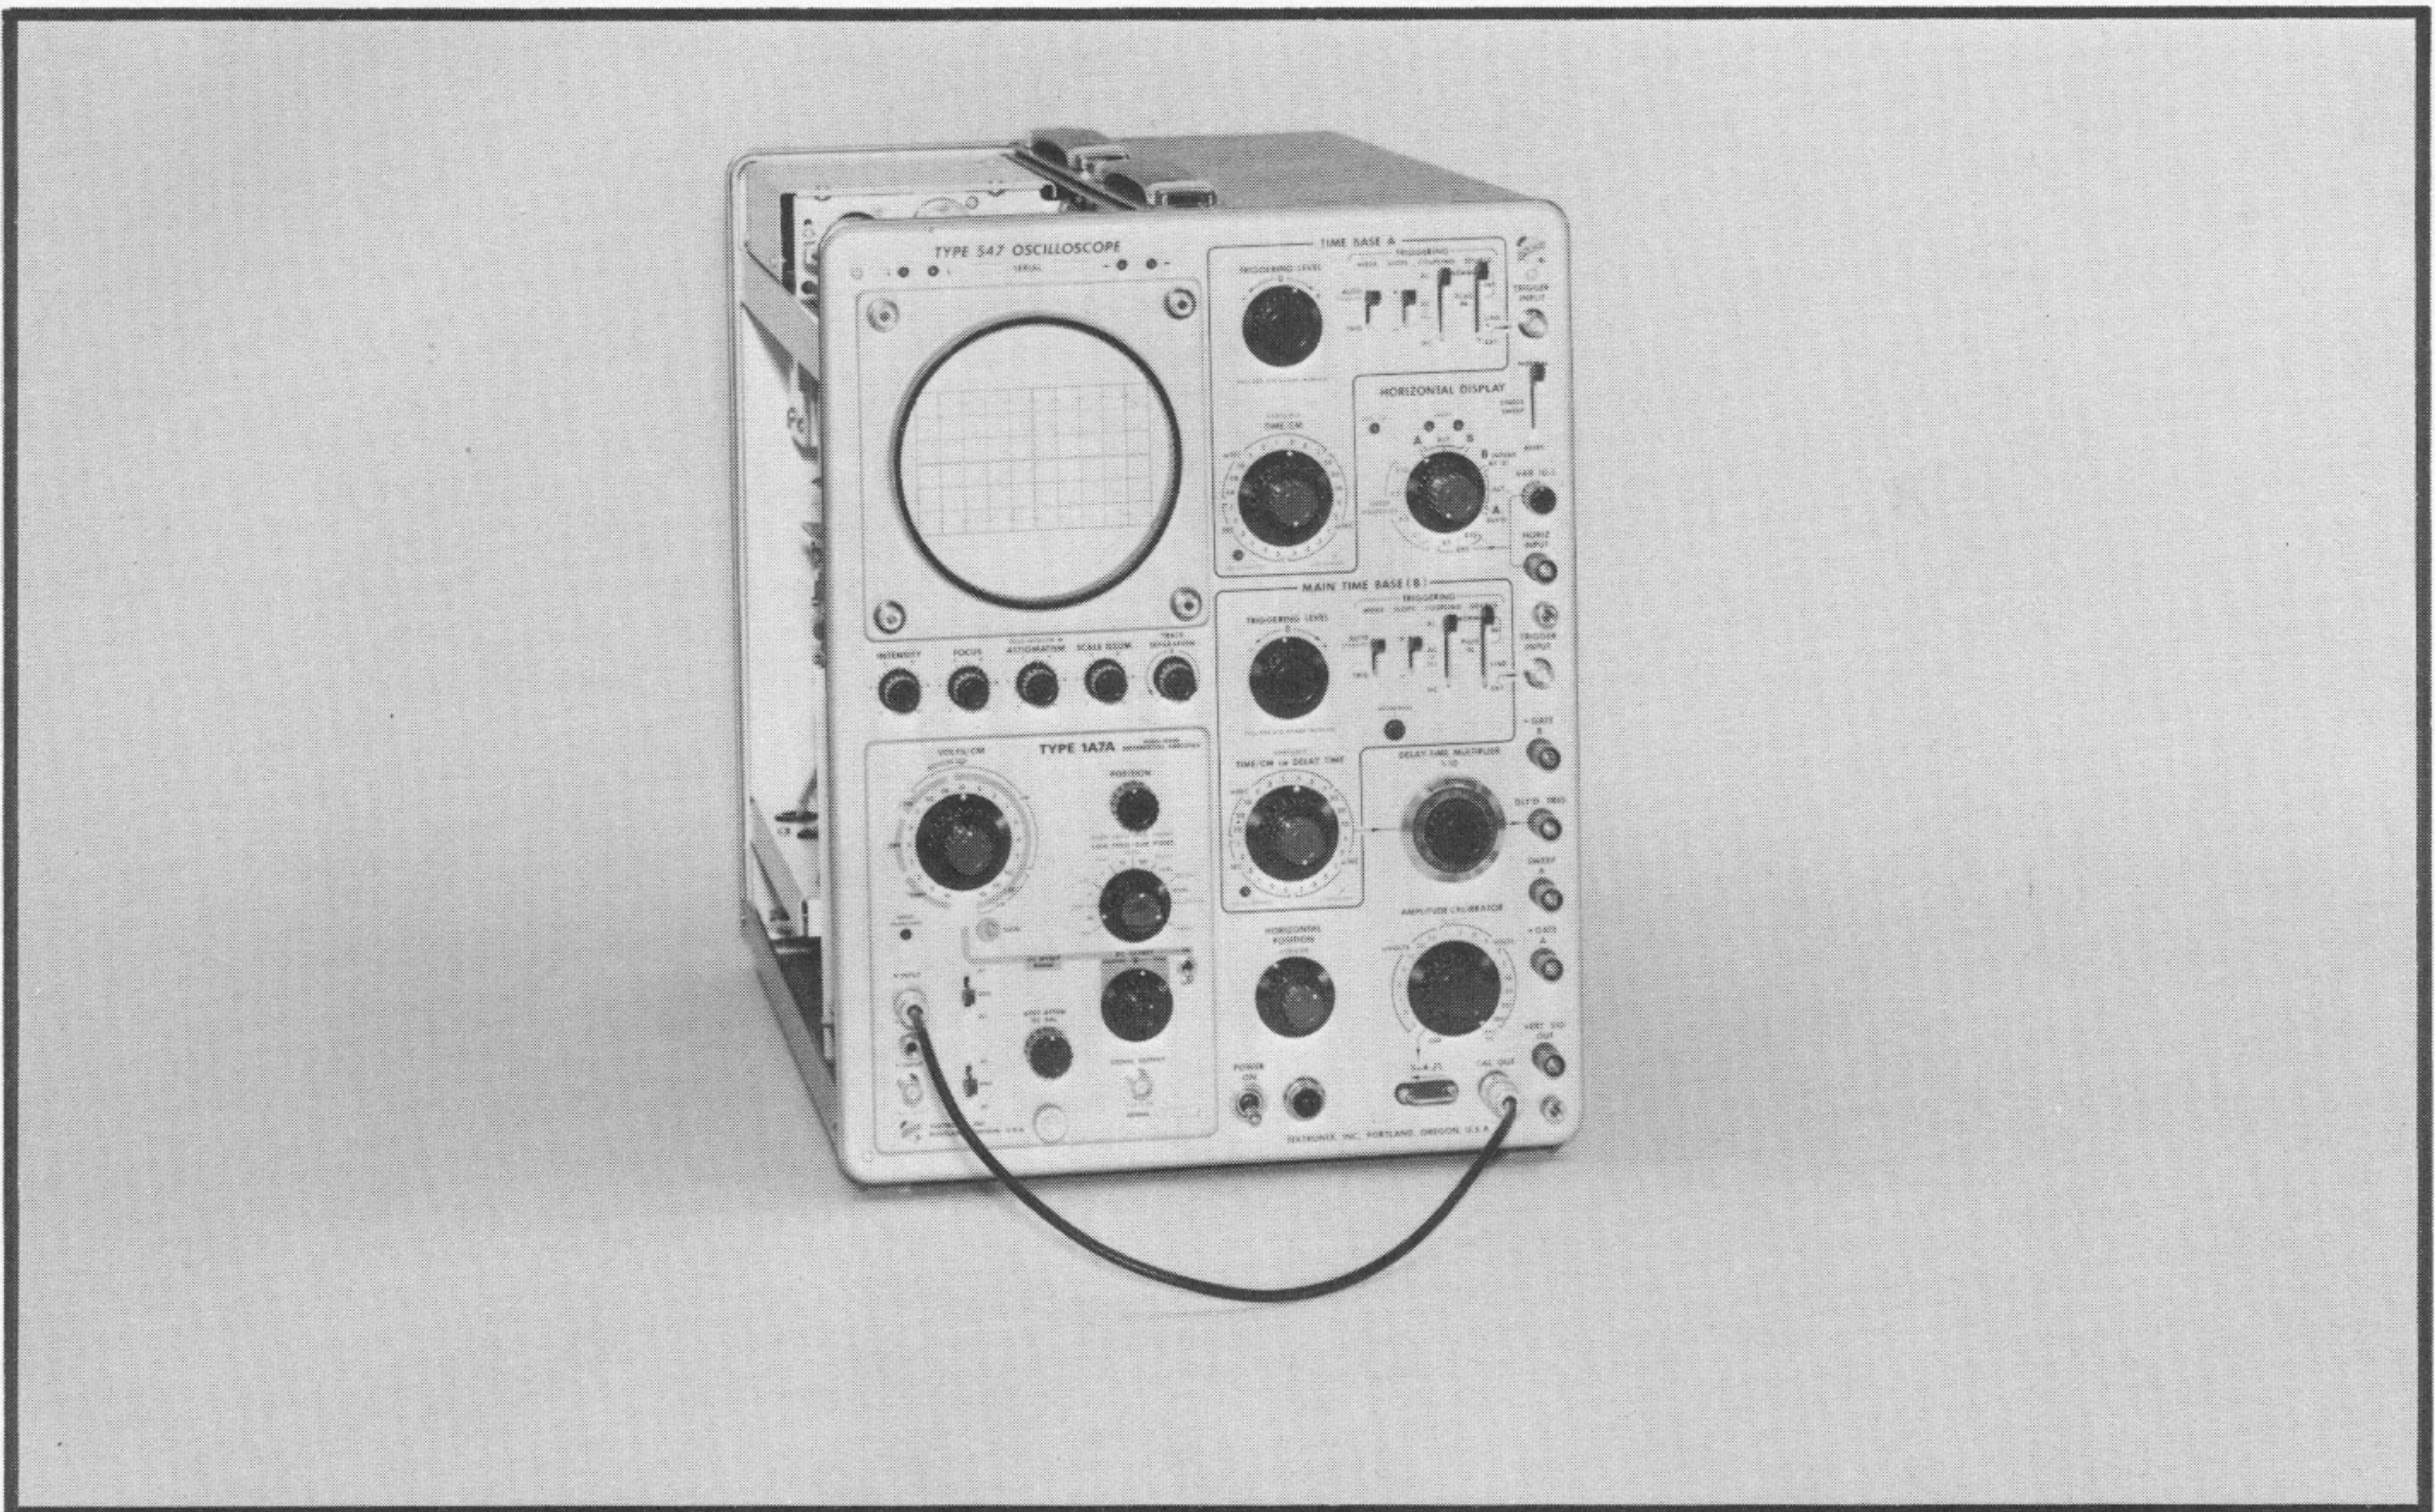

Fig. 5-11. Test equipment setup for steps 10 and 11.
- a. Test equipment setup is shown in Fig. 5-11.